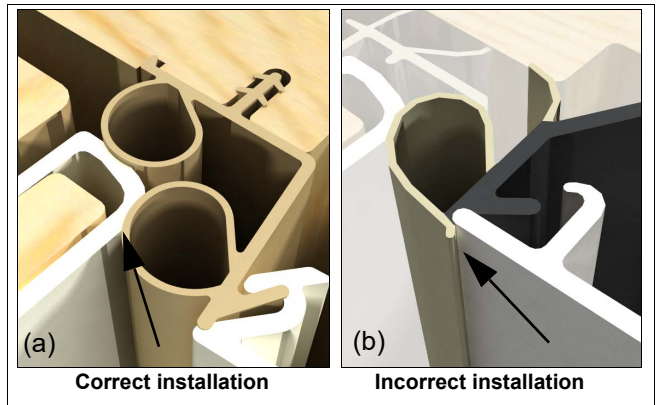

Figure 7 The weather strip needs to be tucked UNDER the part stop. Figure 7a is a correct installation, figure 7b is incorrect.
3. To reinstall the stop, slide the stop in at the bottom first between the bottom panel drip cap and jamb. Press the exterior flange of the side part stop into place first and then press the interior side of the stop until you can hear it snap along the entire length of the stop. Tuck the weather strip under the front edge of the stop. See figure 6 and figure 7.
NOTE: If you hear a “snap or pop”, this does not mean the stop is engaged with the weather strip. Proceed to tuck the weather strip under the stop after it snaps into place. Reference figure 7 for correct and incorrect examples.